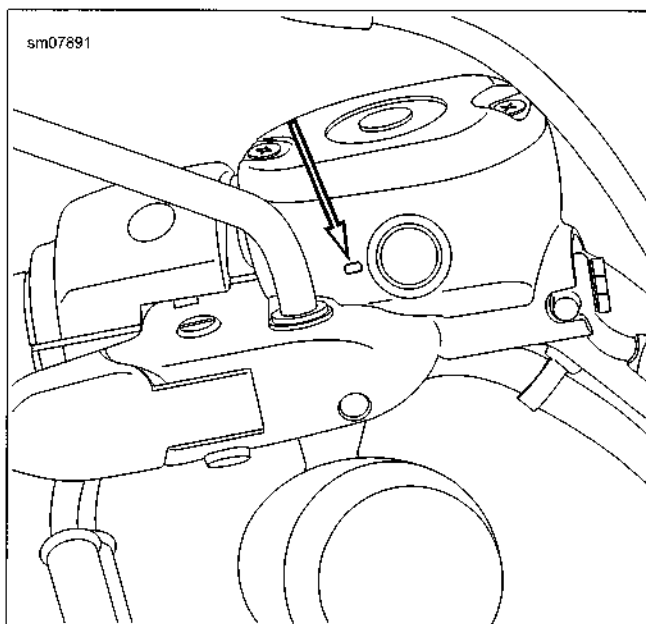

Figure 1-30. Reservoir Low Level Mark
- b. See Figure 1-30. Check low-level mark on reservoir sight glass.